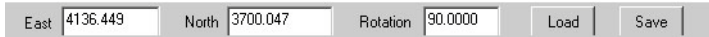

Figure 12-53. Locate Structure Input Bar
5. To load another .hse file, click **Load** on the input bar (Figure 12-53).